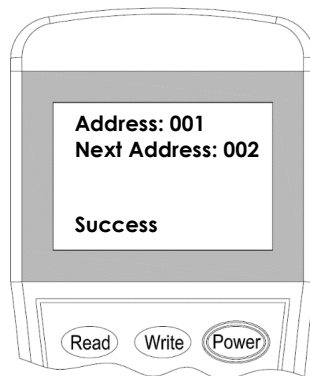

Figure 5
3. Input the desire device address value from 1 to 254, and then press **"Write"** to save the new address (Figure 5).